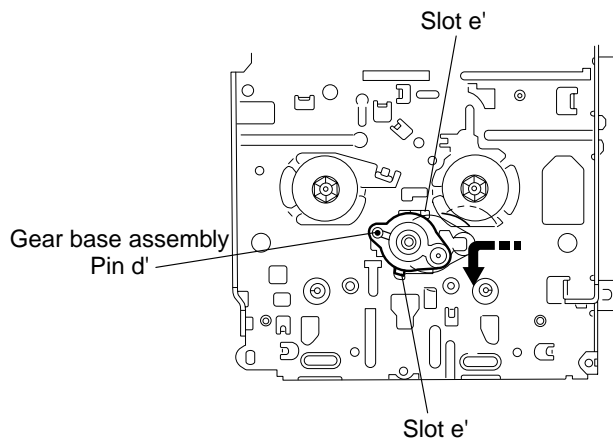

Fig.32
■ Removing the gear base assembly / take up gear / reflector gear (See Fig.32 to 34)